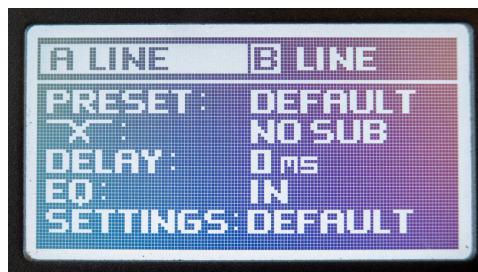

Figure 3.3.3 - Default home page. Always disable Test Mode after returning to service.
4. If Test Mode was successfully disabled, the LCD screen will show the default K.2 home screen. See Figure 3.3.3.